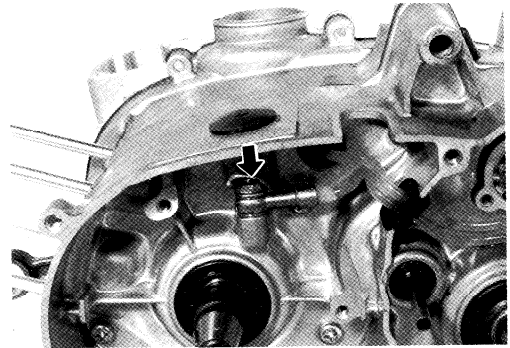

Fig. 5-4-8
9. Remove a union bolt on the left half of the crankcase with a 10 mm wrench and loosen the oil line grummet fitting screw with a cross head screw driver. (Fig. 5-4-8)